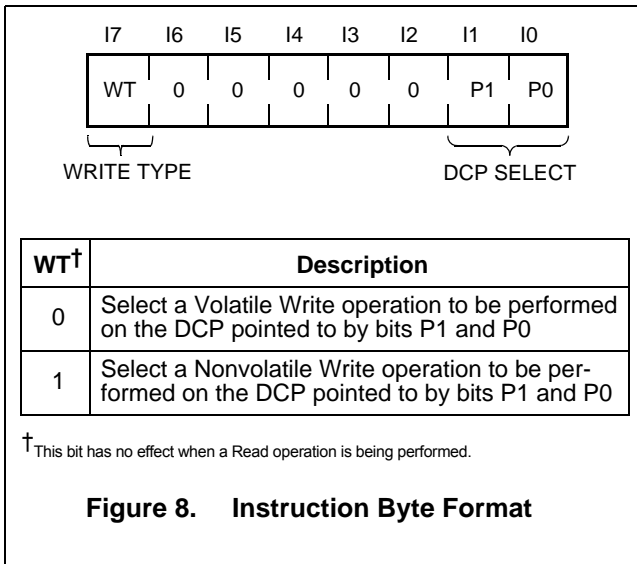

Figure 8. Instruction Byte Format
The Instruction Byte (Figure 8) is valid only when the Device Type Identifier and the Internal Device Address bits of the Slave Address are set to 1010A011. In this case, the two Least Significant Bit’s (I1 - I0) of the Instruction Byte are used to select the particular DCP (0 - 2). In the case of a Write to any of the DCPs (i.e. the LSB of the Slave Address is 0), the Most Significant Bit of the Instruction Byte (I7), determines the Write Type (WT) performed.